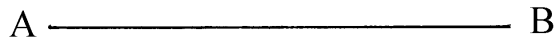

Fig. 2
- (a) An EQUILATERAL arch shape on lines A-B at Figure 2;